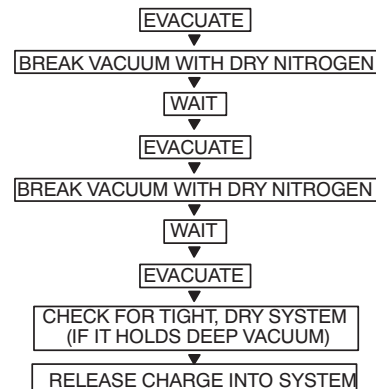

Fig. 20 — Triple Evacuation Method
The triple evacuation method should be used when vacuum pump is not capable of pumping down to 500 microns and system does not contain any liquid water. Refer to Fig. 20 and proceed as follows:
5. Repeat this procedure as indicated in Fig. 20. System will then be free of any contaminants and water vapor.